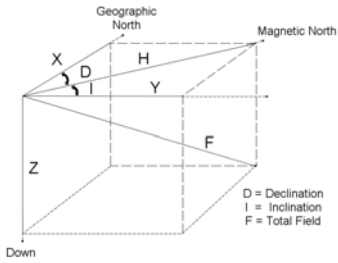

Fig. 1
1. Magnetic North to South is your recommended direction of scan within the Northern Hemisphere. It will be the exact opposite if scanning within the Southern Hemisphere. (Fig. 1)